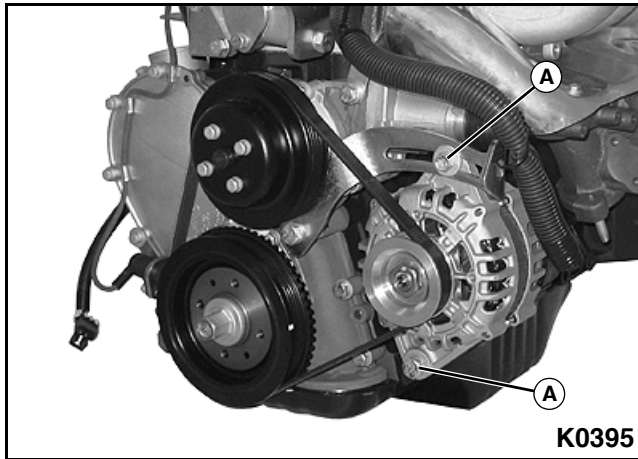

Figure 5-18
1. Loosen the two alternator mounting bolts (A) on the alternator and mounting bracket. See Figure 5-18.